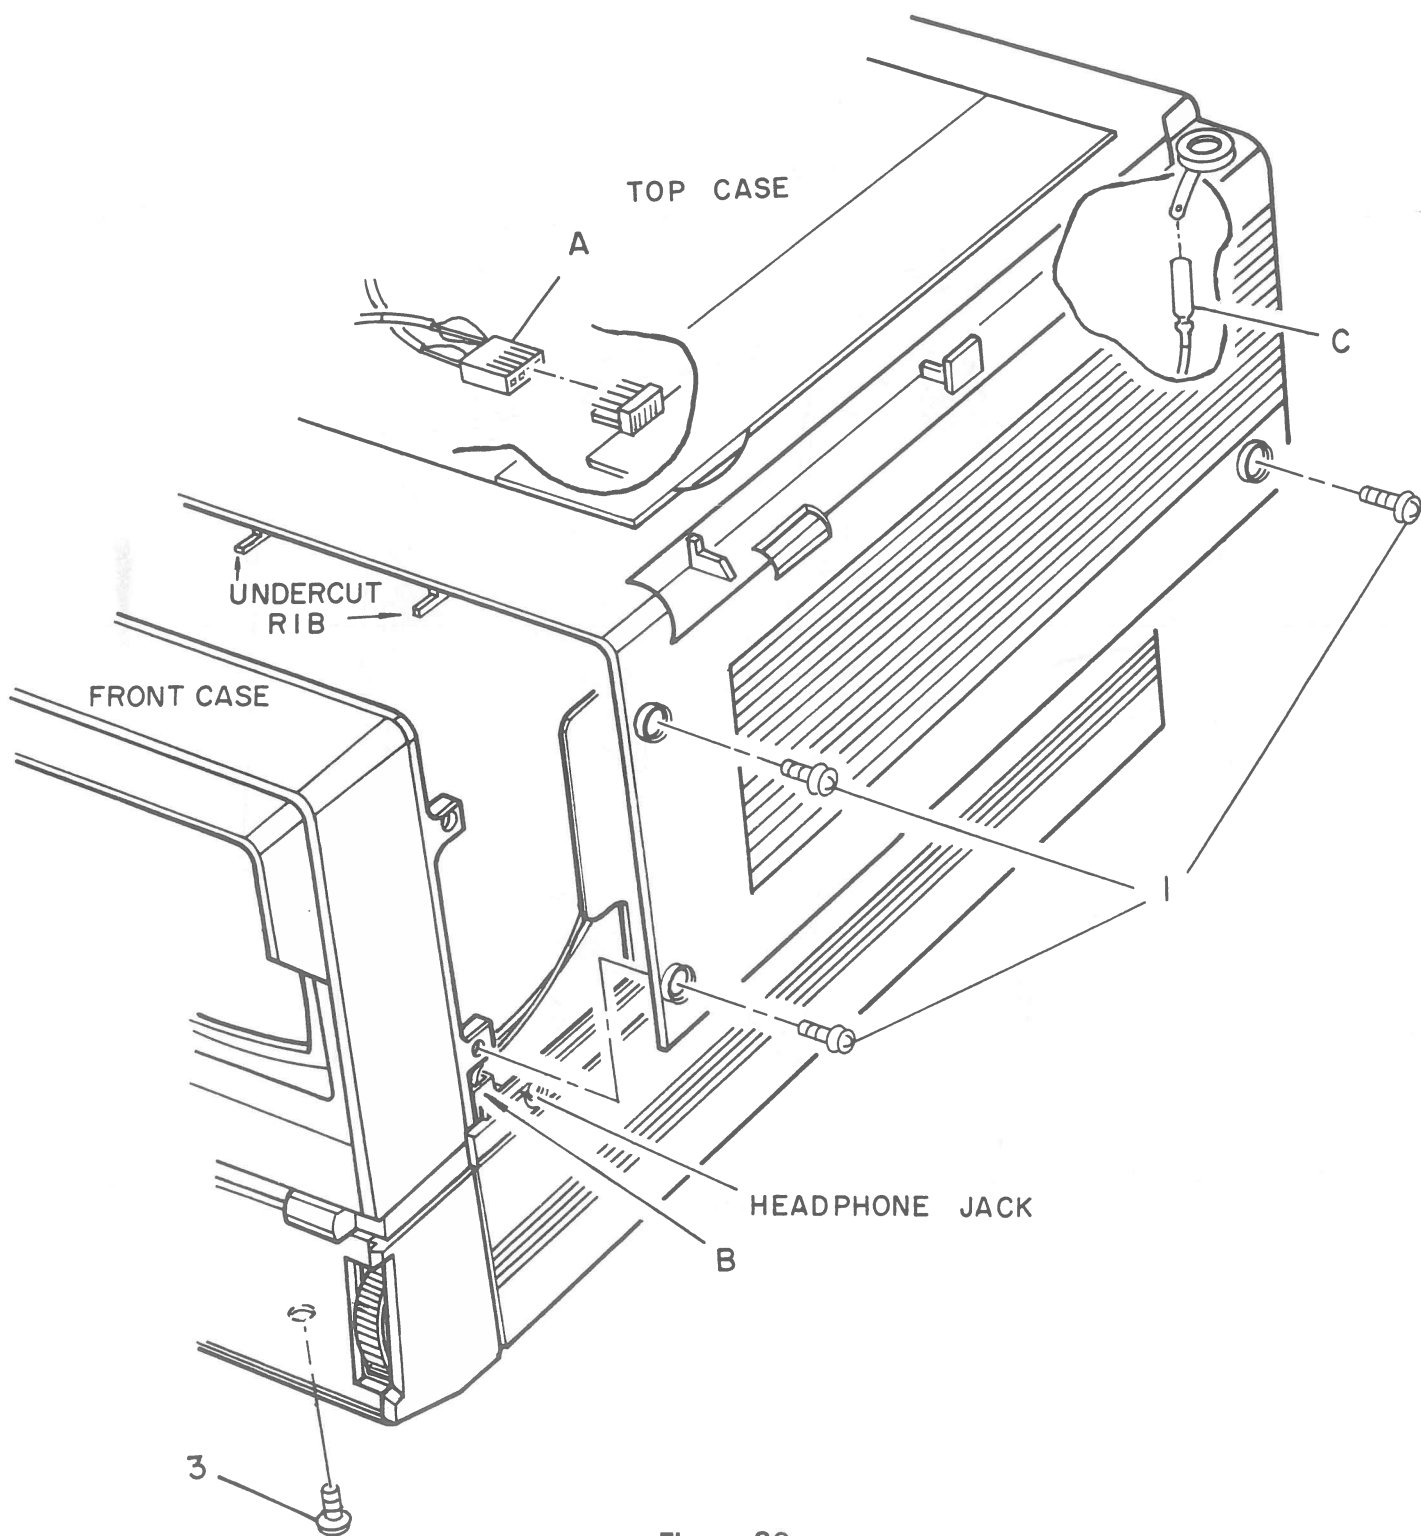

Figure 20
TOP CASE REMOVAL (See Figure 20)
1. Remove the six screws (Figure 20 Reference 1).
FRONT CASE REMOVAL FROM BOTTOM CASE (See Figure 20)
2. Remove the two screws on the bottom case (Figure 20 Reference 3).